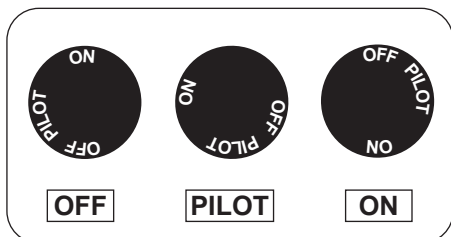
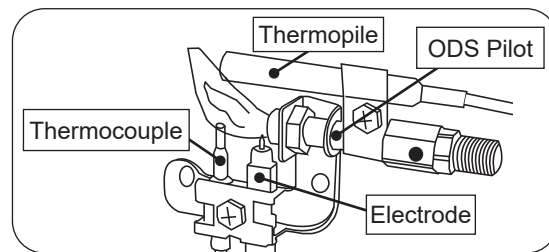

Fig. 25-1 Gas control knob
Fig. 25-3 ODS Pilot assembly detail
2. Locate the valve on the unit. Push in the gas control knob slightly and turn clockwise to **OFF** (Fig. 25-1).
**Wait five (5) minutes to clear out any gas. Then smell for gas, including near the floor. If you smell gas, STOP! Follow "B" in the safety information above. If you do not smell gas, go to the next step.**
3. Locate the pilot assembly on the burner system (see Fig. 25-3).
4. Turn the control knob counterclockwise to **PILOT**. Push the knob **firmly and fully** in and hold. Push the piezo igniter button several times until the pilot lights. Continue to hold the knob in for about one (1) minute after the pilot is lit. Release the knob and it will pop back out. The pilot will remain lit. See Fig. 25-1 and 25-3. If it goes out, repeat steps 2-4. Alternatively, a long-stem match/ long-necked butane lighter can be held near the thermocouple to light the pilot.
1. Ensure the pilot is burning. Turn the control knob counterclockwise to **ON** (see Fig. 25-1).
**To shut down the burner and pilot (total shutdown)**, flip the toggle switch to **OFF**, and push in the control knob slightly and turn clockwise to **OFF** (see Fig. 25-1 & 2).